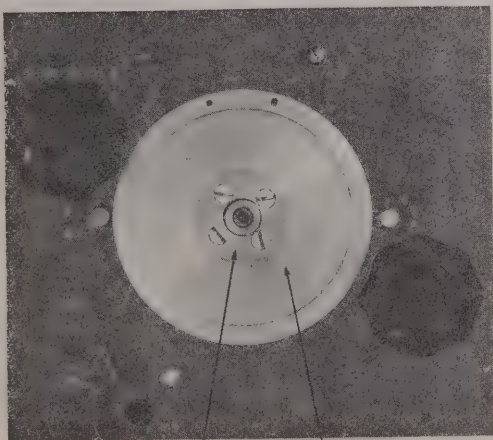
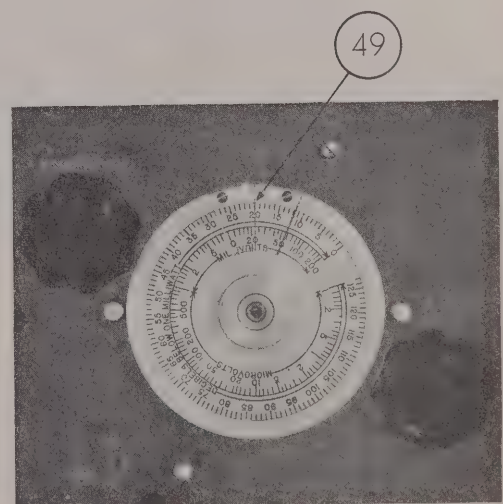
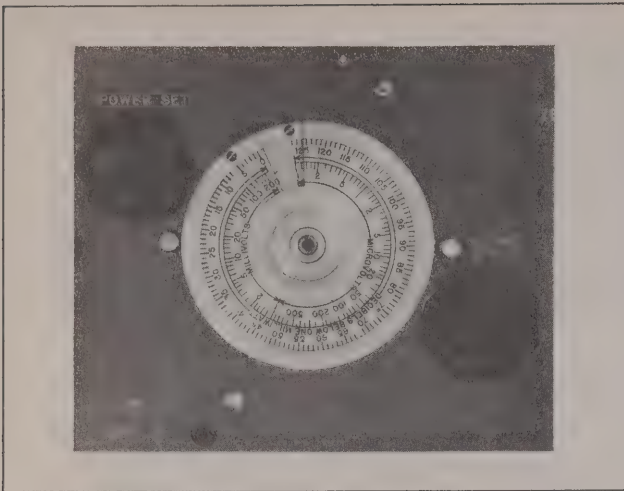

Figure 4-35. Index Plate Assembled
Figure 4-36. Attenuator Dial Assembled for Index Adjustment
Figure 4-37. Position of Index with Both Controls Set Counter-Clockwise
Figures 4-35 to 4-37 show the assembly of the attenuator dial and index system. Before tightening the four 6-32 x $\frac{1}{4}$ inch flat head screws which hold the index plate (48) and clamping ring (47), place the dial on the hub and fasten the index (49) as shown in figure 4-36. It should now be possible to slip the index plate when the POWER SET control is held fast.
The index plate and POWER SET control should be adjusted so that the POWER SET control swings the index an equal amount on either side of vertical (12 o'clock); thus, in figure 4-36 it is possible to swing the index by use of the POWER SET control from approximately the 28 db mark to approximately the 12 db mark.
The index and dial should then be removed carefully and the four clamping screws shown in figure 4-35 tightened without disturbing the position of the index plate or the POWER SET control. The index and dial should be replaced in such a way that when both POWER SET and OUTPUT ATTEN controls are completely counter-clockwise the index is one db from the zero mark as shown in figure 4-37.